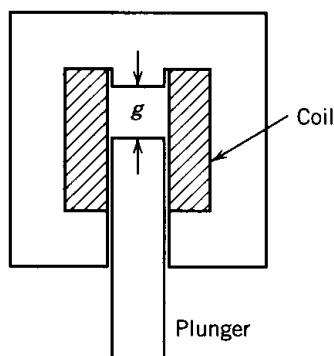

FIGURE P3.6
- 3.6 The cross section of a cylindrical magnetic actuator is shown in Fig. P3.6. The plunger has a cross-sectional area 0.0016 m^2 . The coil has 2500 turns and a resistance of 10Ω . A voltage of 15 V (dc) is applied to the coil terminals. Assume that the magnetic material is ideal.